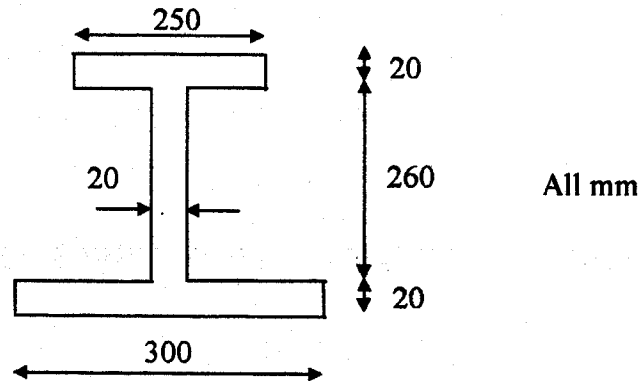

Figure 2
2. An 8m long, simply supported I-beam carries a uniformly distributed load of 10kN/m over its entire length. The beam section is unsymmetric as shown in Figure 2. Find the maximum tensile and compressive bending stresses in the section.